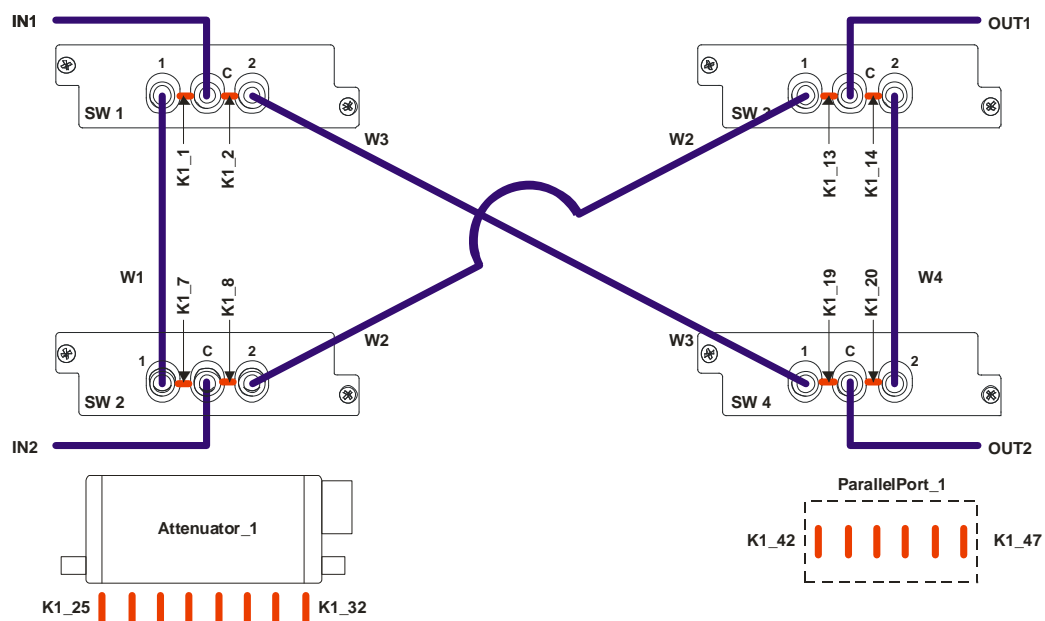
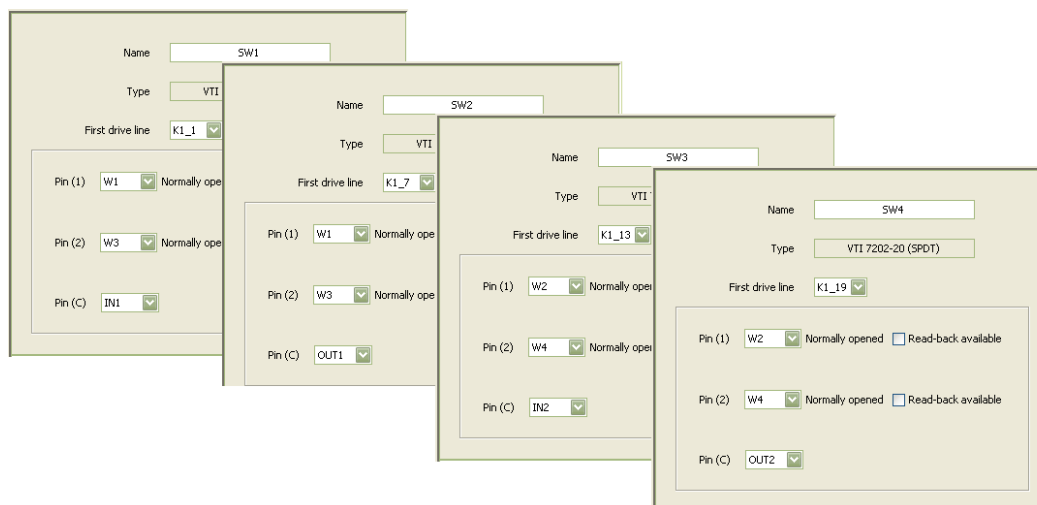

FIGURE A-12: CONFIGURATION EXAMPLE
FIGURE A-17: CONFIGURED RELAYS — SW1 THROUGH SW4
As an example, a 2 x 2 RF matrix will be created as shown in Figure A-12 using one RDB, four 7202-20 SPDT switch modules, an Agilent 84904 attenuator, and a user-defined parallel port. In Figure A-12, blue lines indicate wires in the system (such as W1), while red lines indicate drive line allocations (such as K1_1). To begin, open the System Configurator, then click on **New** in the **File** menu. When the **RDB Count** prompt appears, ensure that a “1” is entered in the text box (note, this is the default value). Click on the **OK** button to begin configuration.
To add the relays, select **Add Relay** from the **Add** menu. Here, we will select the “VTI 7202-20 (SPDT)” from the drop menu. Per Figure A-12, “SW1” is entered as the relay name. Once this is completed, the **Add** button is clicked. These steps are repeated for SW2, SW3, and SW4. Once all relays have been added, the **Add new relay** prompt can be closed.
With the wires defined, switch connectivity can now be set. To set the pin connections for relay SW1, select SW1 in the relay folder. Next, change the Pin (1) setting to “W1” to match the connectivity in Figure A-12 by using the wire drop menu. Then change Pin (2) to “W3” and Pin (C) to IN1 using the same method. Once all of the relays have been configured, their detail panes should appear as in Figure A-17.